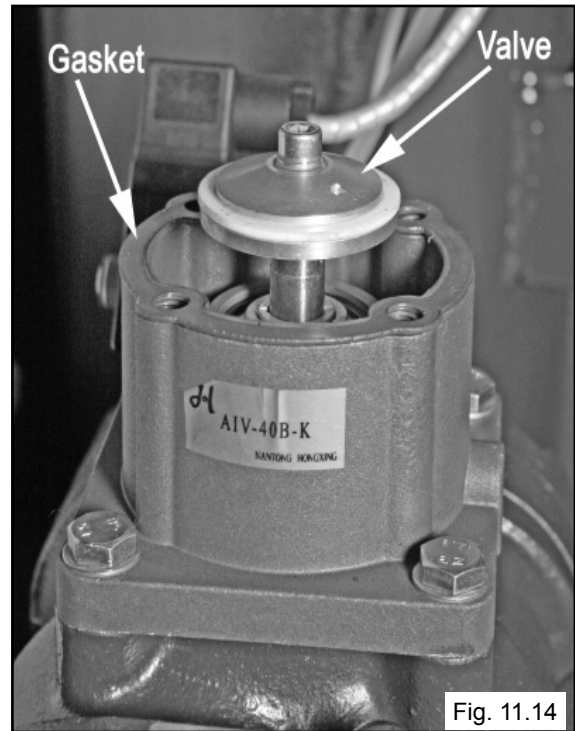

Fig. 11.14
3. Remove and replace the Valve Body Top Gasket. Remove the Valve. (See Fig. 11.14)